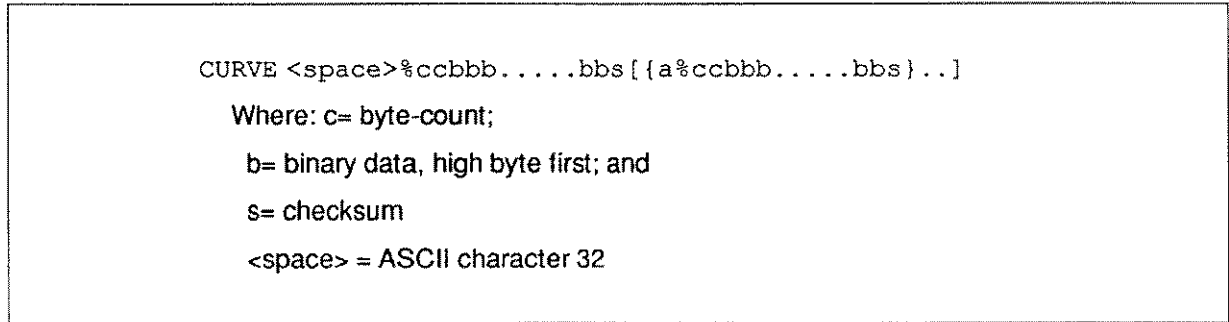

Fig. 4-1 Waveform data structure using repeat binary block
**BINARY BLOCK** - Transfer the entire waveform in one block. The BSIZE command is the same size as the total number of points (specified by the COUNT command). Most computers can read 8K words in one block. The binary waveform data is transferred as shown in Figure 4-1.